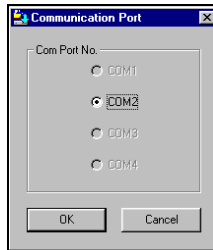

Figure 29 The Com Option box
- From the Options menu choose Com Port. The Com Port box appears. See Figure 29.